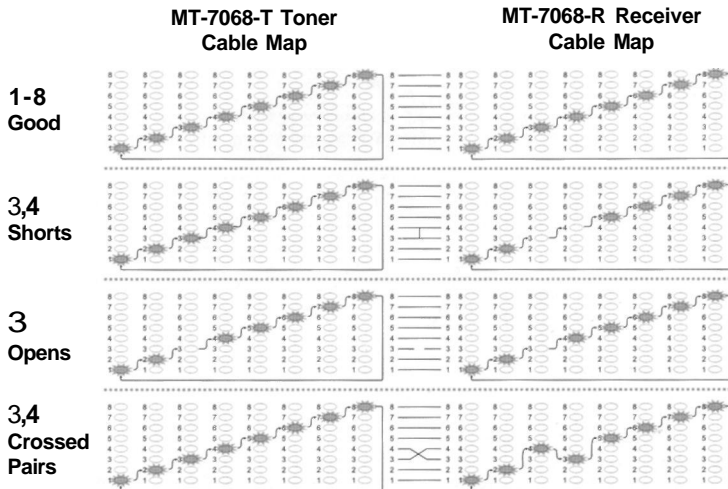

Figure 7 Good Wiring, Shorts, Opens, Crossed Pairs
4. You can use the MT-7068 Toner and Probe to validate the cable map on RJ11 and RJ45 connectors. The cable map function finds the most common wiring status on twisted pair cabling: good, shorts, opens, and crossed pairs as shown in Figure 7.